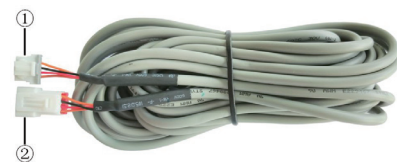

Fig. 25: Schematic diagram of connection wire: Connect terminal ① with wired controller CN1; connect terminal ② with the terminal ④ of patch cord
Only use the connection wire (Fig. 25) in the packing box of wired controller. Connect the terminal ② to the terminal ④ of patch cord which has been installed on the air conditioner; insert terminal ① to needle stand CN1 of wired controller. If there's protection terminal ③, pull out the protection terminal at first and then install it.